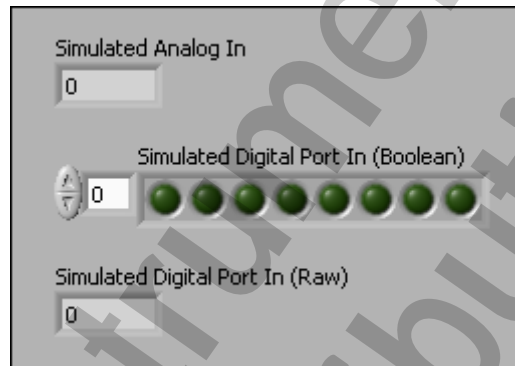

Figure 4-3. R-Series I/O.vi Front Panel
8. Arrange the front panel shown in Figure 4-3.